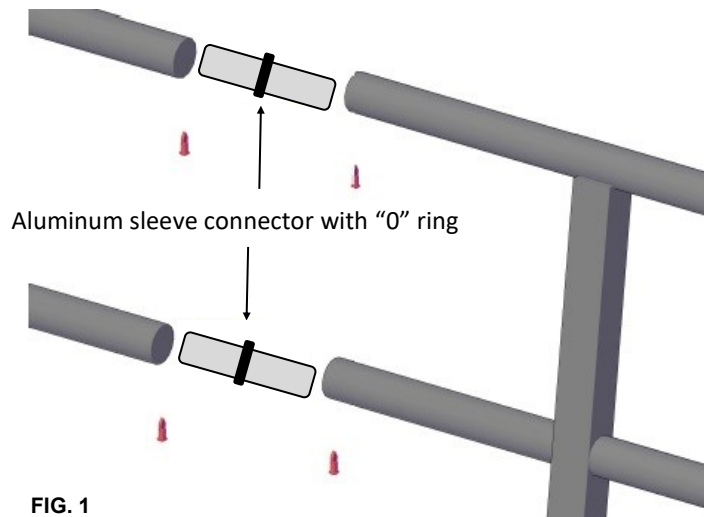

FIG. 1
Connect each rail to the previous rail using the 5" aluminum Sleeve Connector. The rail hardware package includes (4) tubes with rubber "O" ring. (FIG 1.)
- The End Transition Tread (TT36) is secured to the end of the ramp by **sliding** it from **left or right** onto the female groove at the end of the ramp. The Under Lip of the TT36 will keep it from lifting off. (FIG 1 and 2)